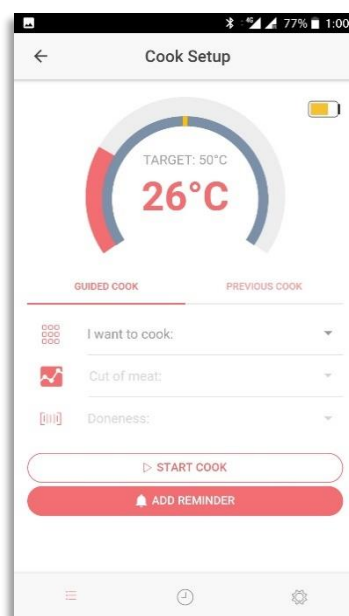

Figure 5. Display of Cook Setup
2. Press the area of the information of the probe on the “Available Probes” screen, the “Cook Setup” screen will be shown in Figure 5.